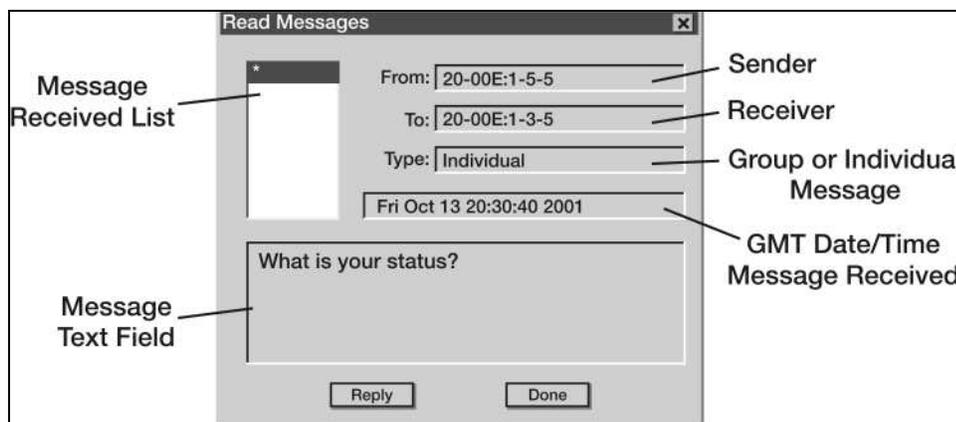

Figure 3-95. Read Current Message Window
- b. Select read messages - read current or press F1 to read messages (see Figure 3-95).